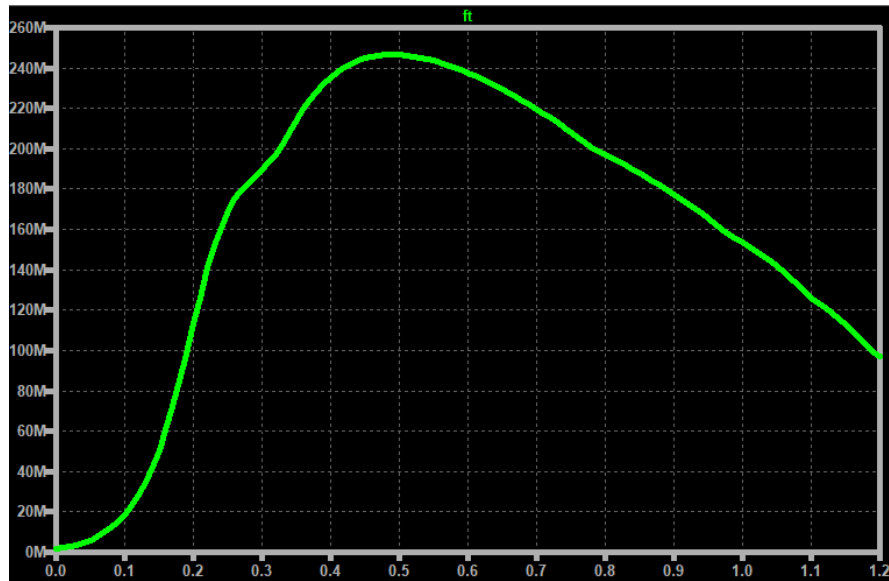

Figure 2.19  $f_T$  vs.  $V_{GS}$  of Figure 2.17
4. Open the Error SPICE Log then plot  $f_T$ , you should get Figure 2.19.
4. Reproduce the PMOS equivalent of Figure 2.19. Use  $V_{SD} = 0.6 \text{ V}$ . Show your plot and place a cursor showing  $f_T$  at  $V_{SG} = 0.35 \text{ V}$ .